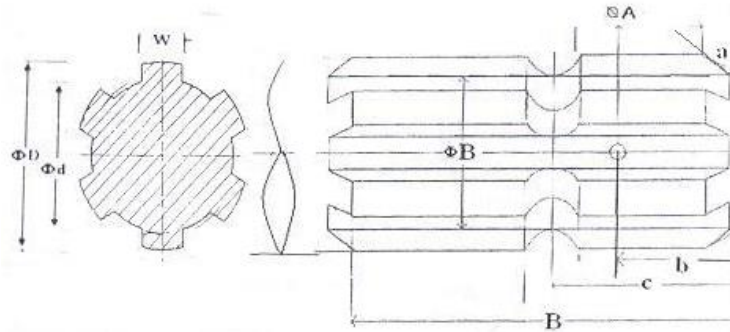

Fig. 4: Dimension of Implement Power Input Shaft
5.2.7.1 Splined end of digger input shaft (Refer Fig. 4):